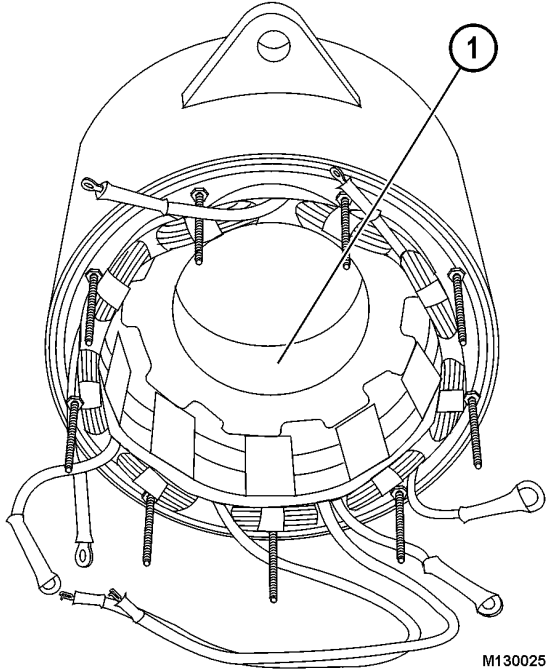

FIGURE 10-25.
4. Seat field coil bobbin ears over stator tabs (Figure 10-25) by inserting field winding and rotating about 20 degrees after insertion with tool BF4820. Align screw holes in bobbin ears with screw holes in stator tabs.